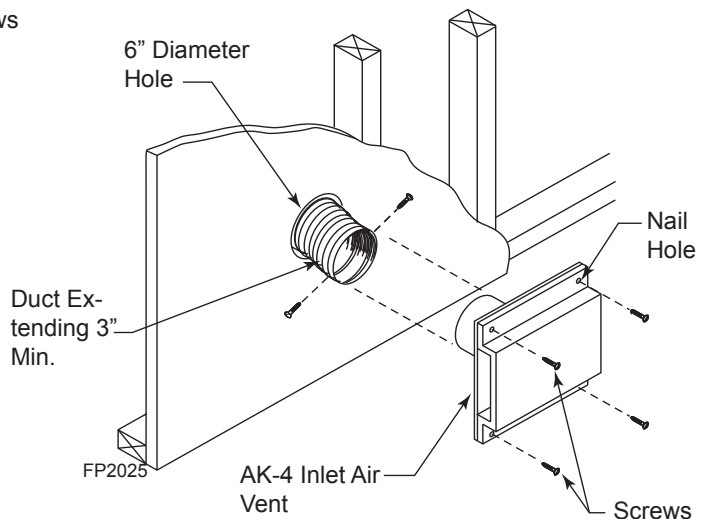

Figure 13 - Combustion Air Assembly for Model No. OAC-4
3. Cut a 6" diameter opening for model OAC-4 in the outside wall covering where the outside vent is to be located. *Figure 13*
5. If using insulating duct, push the insulation back from one end of the duct approximately 2". *Figure 13*